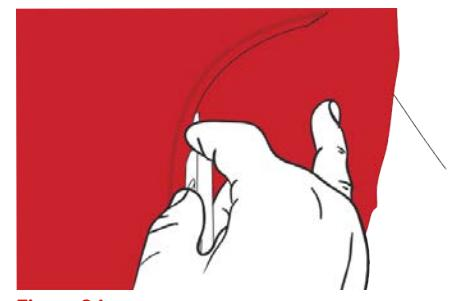

Figure 24
- › For the cut, the cutter blade must be placed against the edge of the adjacent part. When cutting, make sure you always go along the same line. (FIG. 24)